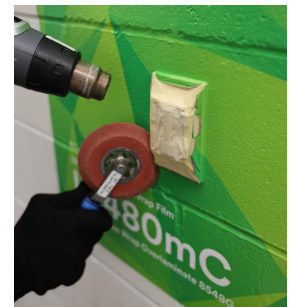

Figure 21. Conforming Film Around an Obstruction
8. Heat the film again and use the TSA-2 tool to conform 1 in. to 2 in. (2.5 cm to 5.1 cm) of film around the obstruction. See Figure 21.